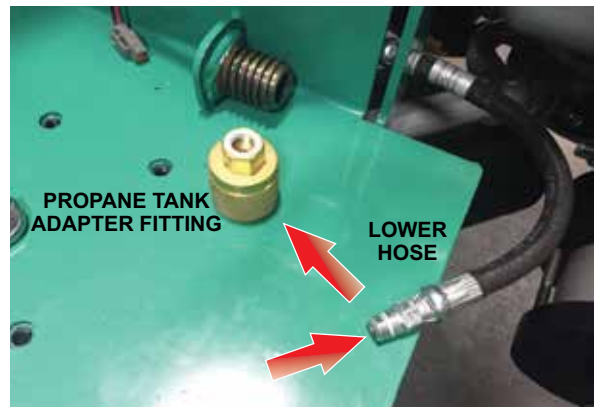

Figure 15. Remove LPG Connection Port Fitting
14. Remove propane tank adapter fitting from the lower hose (Figure 15), and set aside.